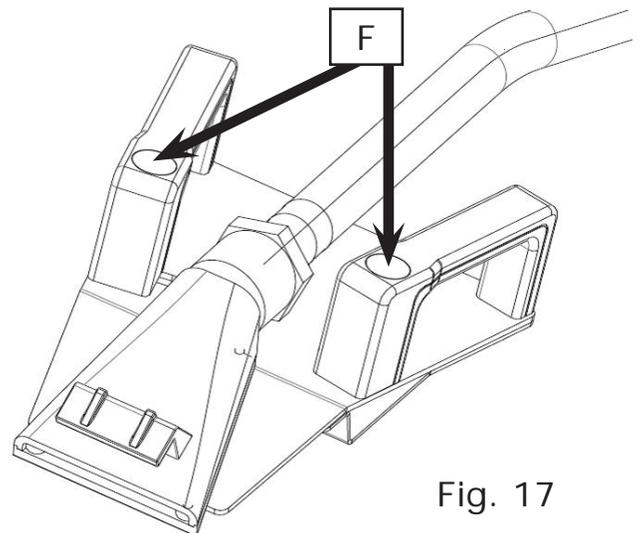

Fig. 17
- Press and release the pedal (Z) continuously and check the pressure on the gauge frequently until the tire bead seats completely on the rim.
- If the bead of tire is not well seated due to a strong bead, position the blasting nozzle towards the rim center just under the rim lip (ref. fig.17), then press the buttons (F) all the way down: a strong jet will be released through the nozzles in the slides and this will help the bead seal. Make sure to hold the blasting handles firmly during this operation.